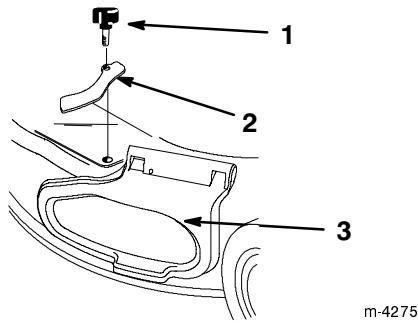

Figure 35
3. Remove the knob and side cover clamp (Fig. 35).
3. Remove the knob and side cover clamp, then replace the knob in the hole and save the clamp for future use (Fig. 35).
4. Lift up on the side opening cover (Fig. 35).